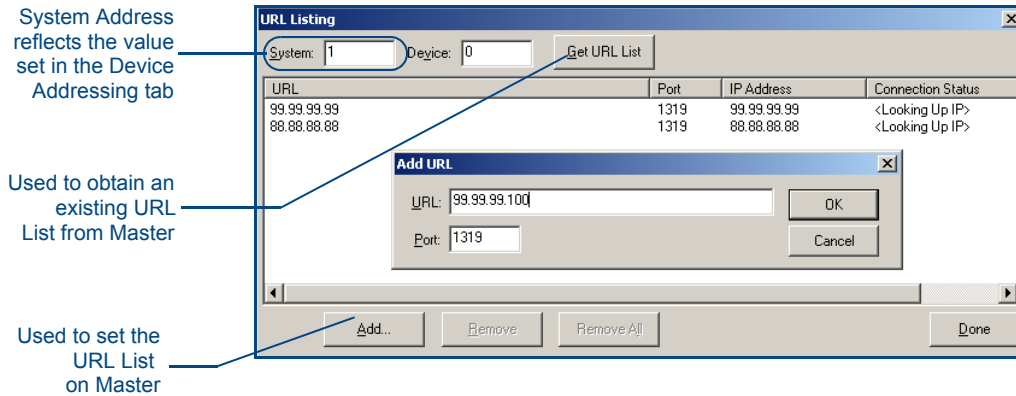

FIG. 41 URL List dialog
6. Select **Diagnostics > URL Listing** from the Main menu (FIG. 41).